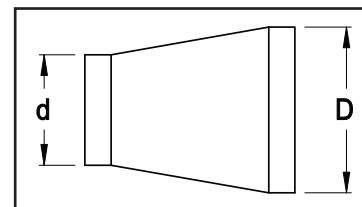

Figure 3
*Reducer or increaser ratio (d/D) small diameter divided by the larger diameter. (See Figure 3)